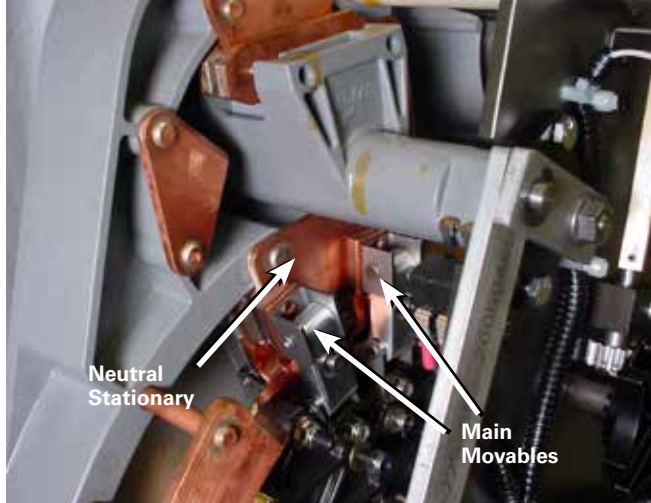

Figure 125. Neutral stationary contact.
- A. Main movable contacts are located on the neutral stationary contact, which is located at the 11 o'clock position and under the reversing switch movable contact assembly. See Figure 125.